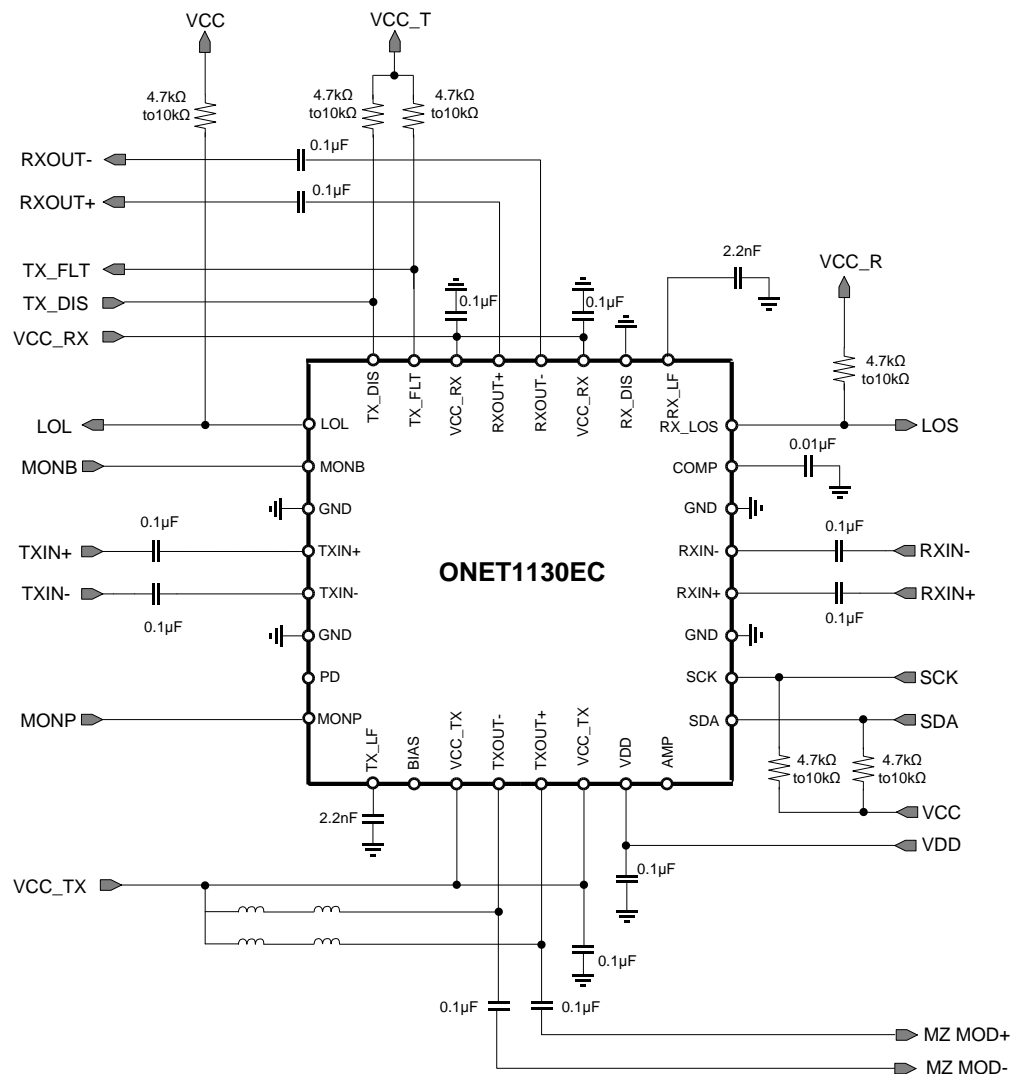
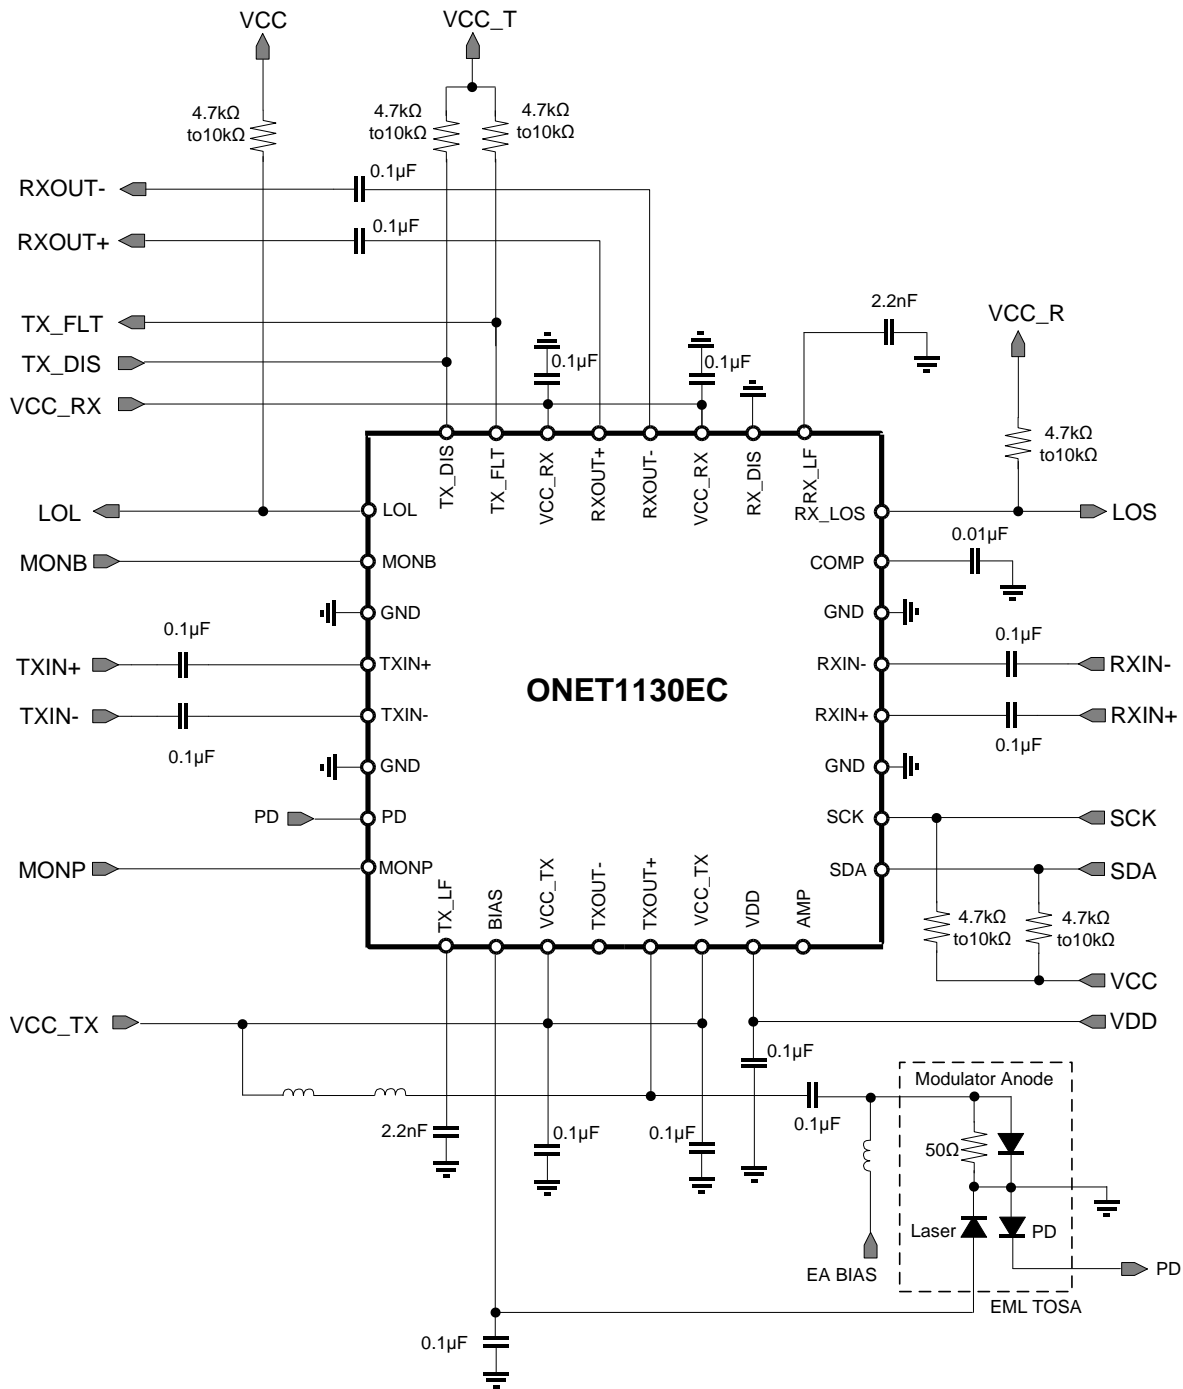
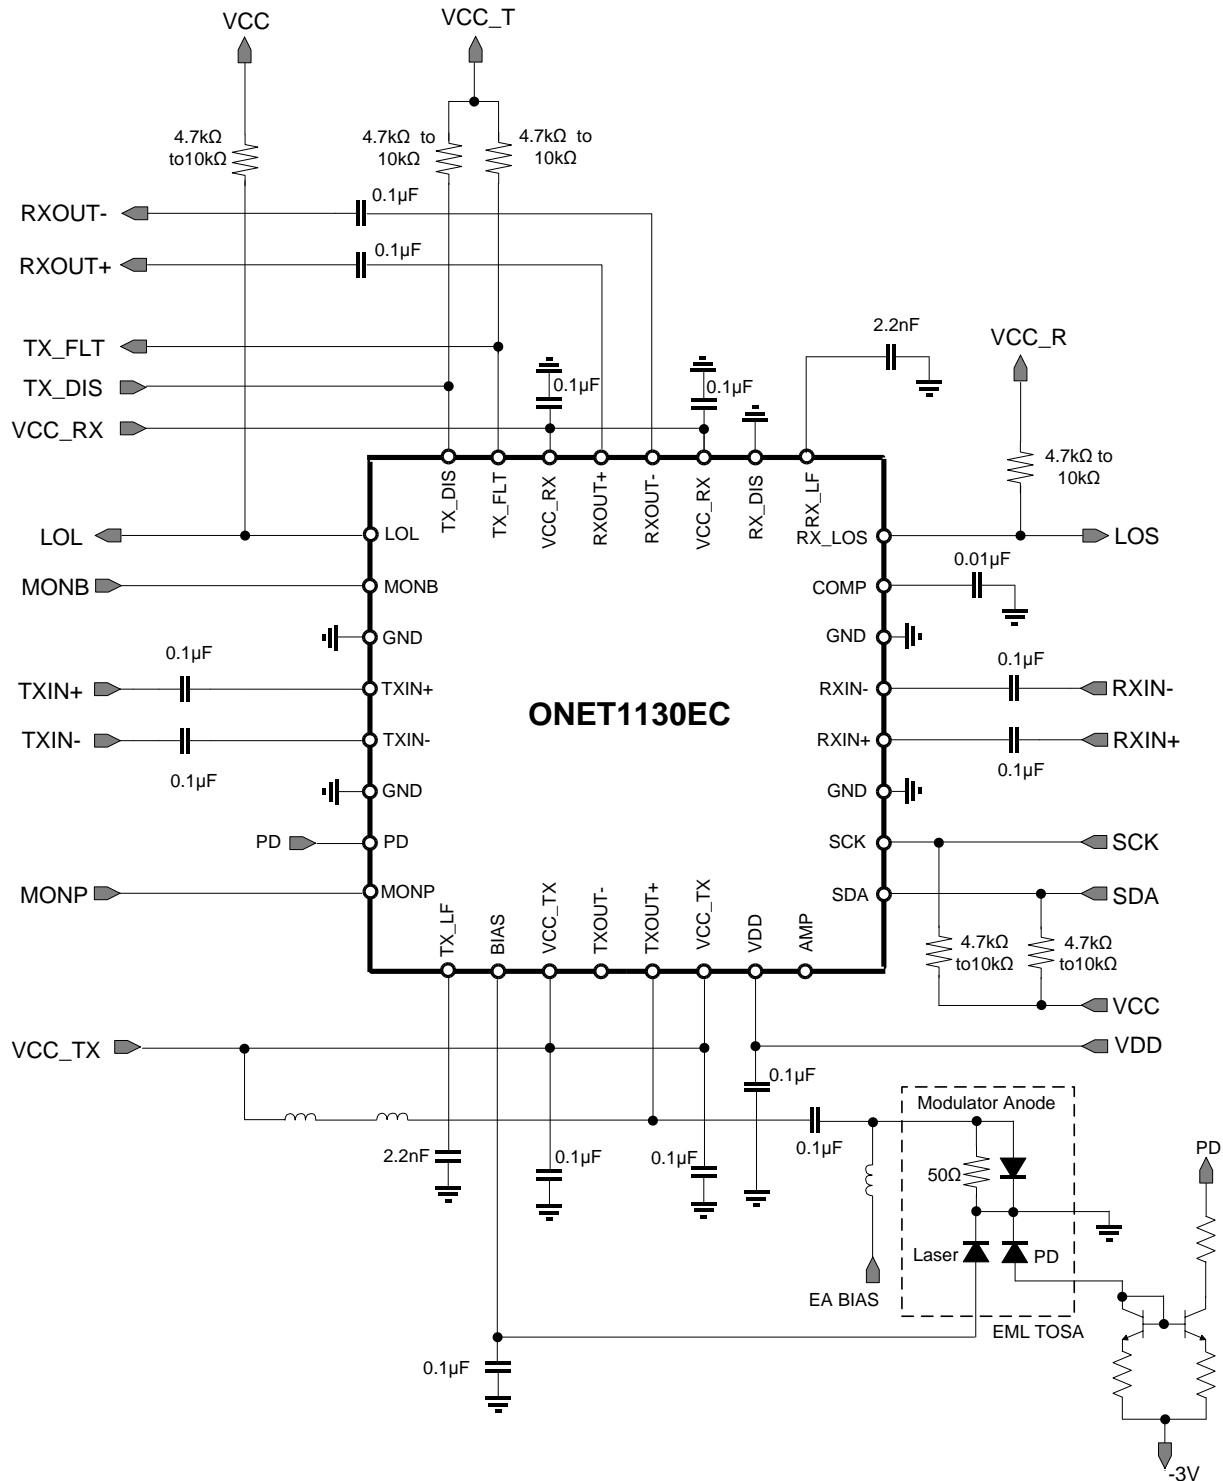

图 68. Typical Application Circuit in Differential Mode
图 70. Typical Application Circuit in Single-Ended Mode with an EML and the PD Monitor Cathode Available
图 71. Typical Application Circuit in Single-Ended Mode with an EML and the PD Monitor Anode Available
The ONET1130EC is designed to be used in conjunction with a Transmitter Optical Sub-Assembly (TOSA) and a Receiver Optical Sub-Assembly (ROSA). The ONET1130EC, TOSA, ROSA, microcontroller and power management circuitry will typically be used in an XFP or SFP+ 10 Gbps optical transceiver. 图 68 shows the ONET1130EC in differential mode of operation modulating a differentially driven Mach Zehnder (MZ) modulator TOSA and 图 70 and 图 71 show the device in single-ended output mode with an Electroabsorptive Modulated Laser (EML) TOSA. 图 70 has the photodiode cathode available and 图 71 has the photodiode anode available.